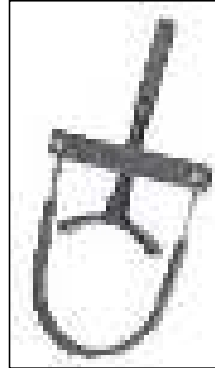

Fig. 1.19A
13. Magneto tool assembly - N931 017 0 (Fig. 1.19A)